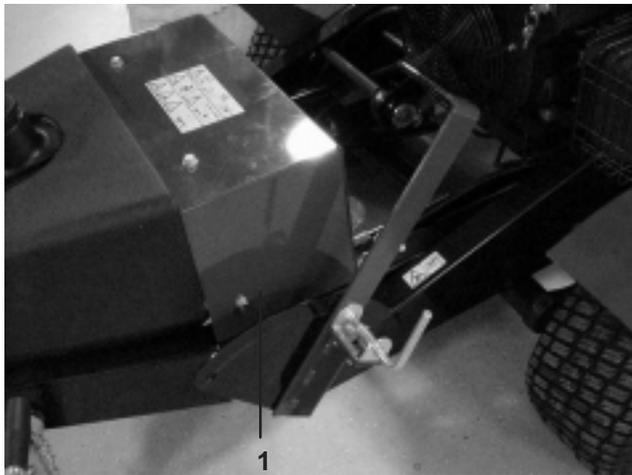

Figure 1
1. Remove (6) bolts and washers securing battery cover to chassis (Fig. 1).